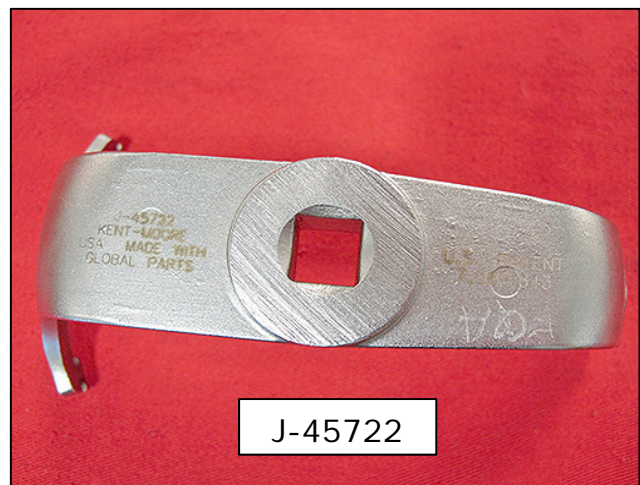
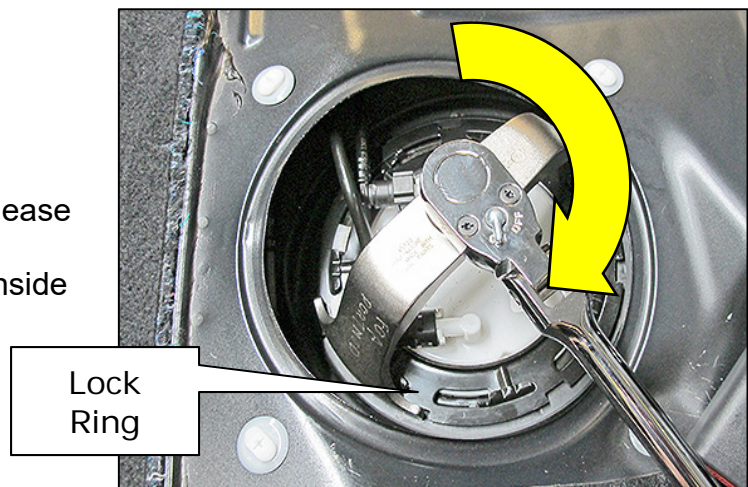

Figure 11
Figure 12
9. Using tool J-45722 (Figure 11), rotate the fuel pump lock ring clockwise to lock (Figure 12).